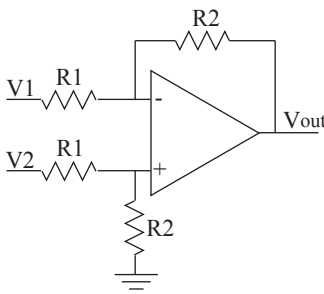

Figure 20-10 Difference Amplifier
We have already met two arithmetic operations. A simple inverting or non-inverting amplifier multiplies a signal voltage by a constant and the mixer adds two signals together. The next circuit (Figure 20-10) subtracts one signal from another. It is sometimes called a subtractor and sometimes a difference or differential amplifier, since it amplifies the difference between two signals.
7. Use the Golden Rules and Kirchoff's Laws to show that the Difference Amplifier of Figure 20-10 obeys the equation.